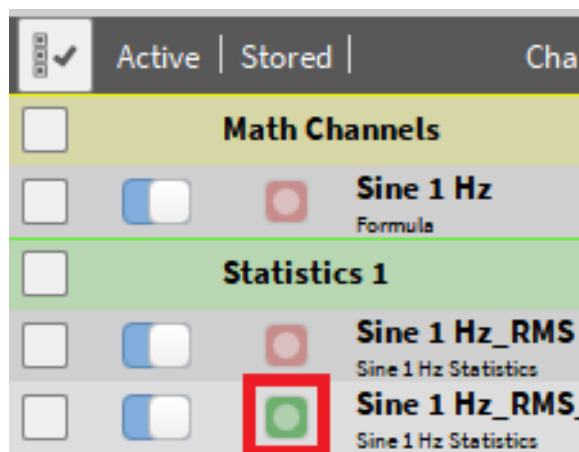

Fig. 7.162: Recognition of offline created channels
- Channels that have been created offline can be recognized on the Green Record button in the Channel List (see Fig. 7.162):